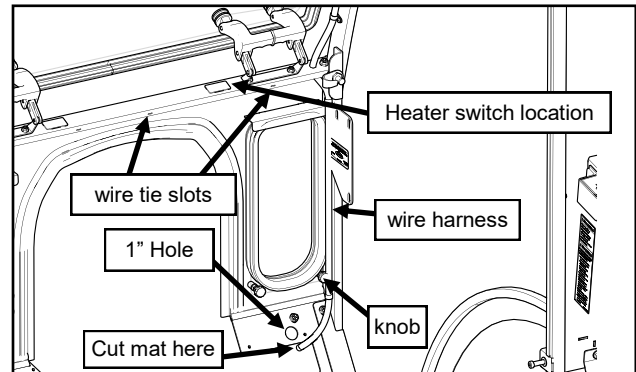

Fig. 10.2 (wire harness installation onto cowl)
**10.2** From outside the cab, find the right side of the large cut out in the front flange of the tractor floorboard. Check to make sure that location is aligned with the large cut out in the cab floorboard mount. From inside the cab, make a 1/2" hole in the tractor floorboard rubber mat, aligned left to right with the 1" hole in the floorboard mount per figure 10.2. Insert the switch end of the harness (see page 23) from the bottom of the tractor floorboard thru the hole.